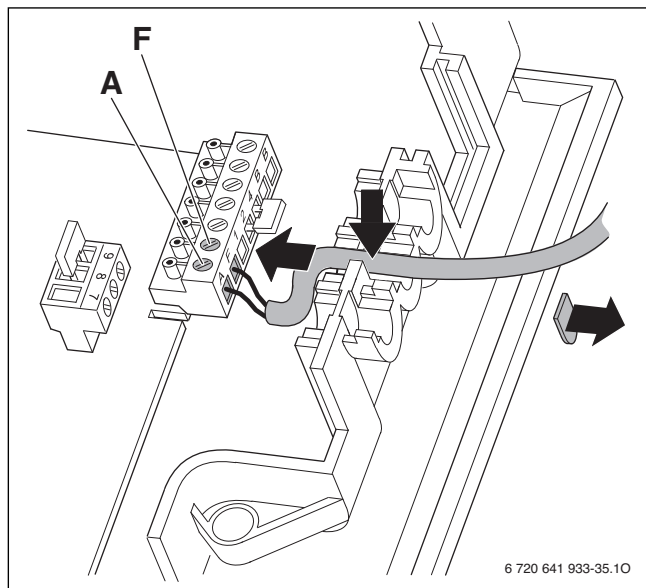

Fig. 37 Electrical wiring outdoor temperature sensor
- ▶ Connect cable of the outdoor temperature sensor according to Fig. 37.